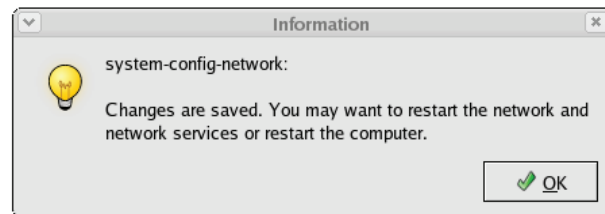

Figure 14. Settings Saved Window
10. The following dialog box appears (see figure 14). Click **OK** to continue.